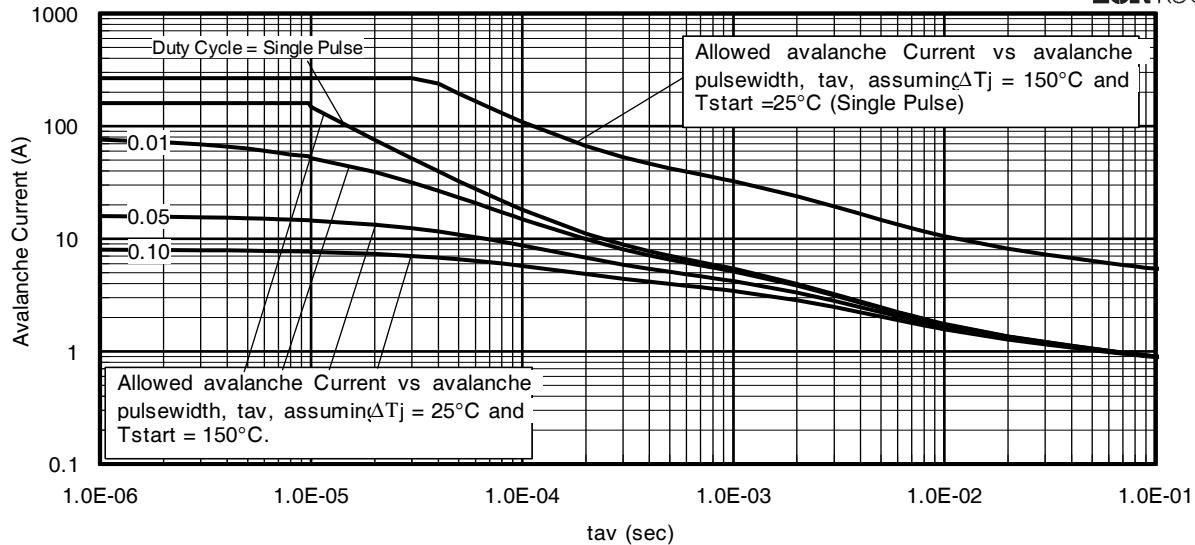

Fig 15. Typical Avalanche Current vs. Pulsewidth
7. ΔT = Allowable rise in junction temperature, not to exceed $T_{j\max}$ (assumed as 25°C in Figure 15, 16).